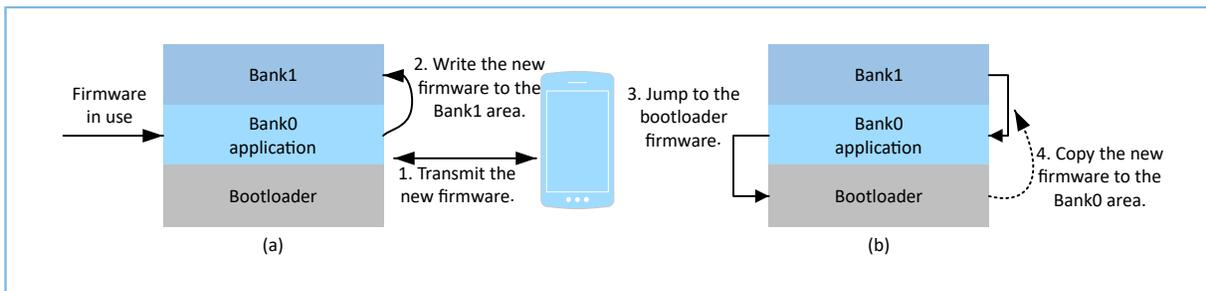

Figure 1-1 Schematic diagram of background dual-bank DFU mode
- The schematic diagram of the background dual-bank DFU mode is shown in Figure 1-1. The upgrade process mainly consists of the following steps: